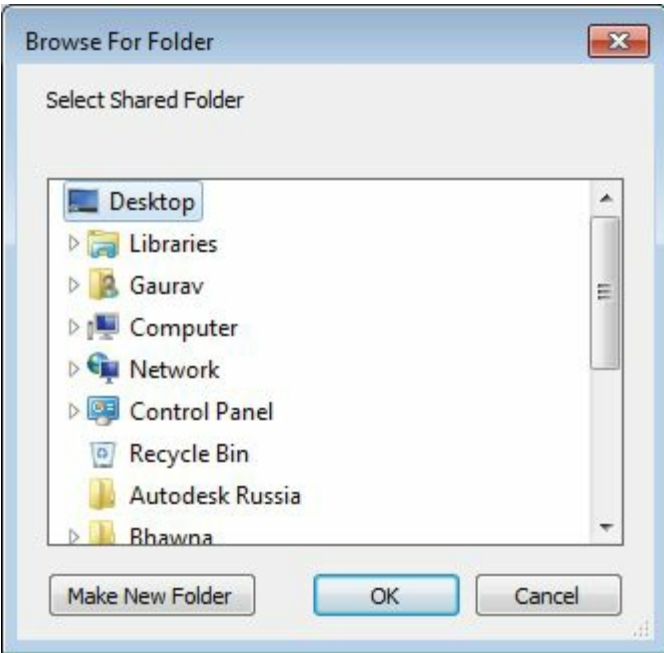

Figure-5. Browse For Folder dialog box
- Click on the ellipse button () to browse for shared folder. The **Browse For Folder** dialog box will be displayed; refer to Figure-5.